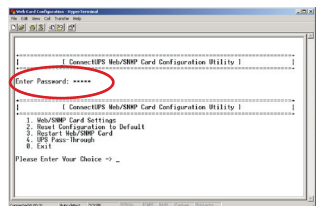

Figure 8. Enter Configuration Password
7. After a few seconds, press Enter. The Password prompt appears (see Figure 8).